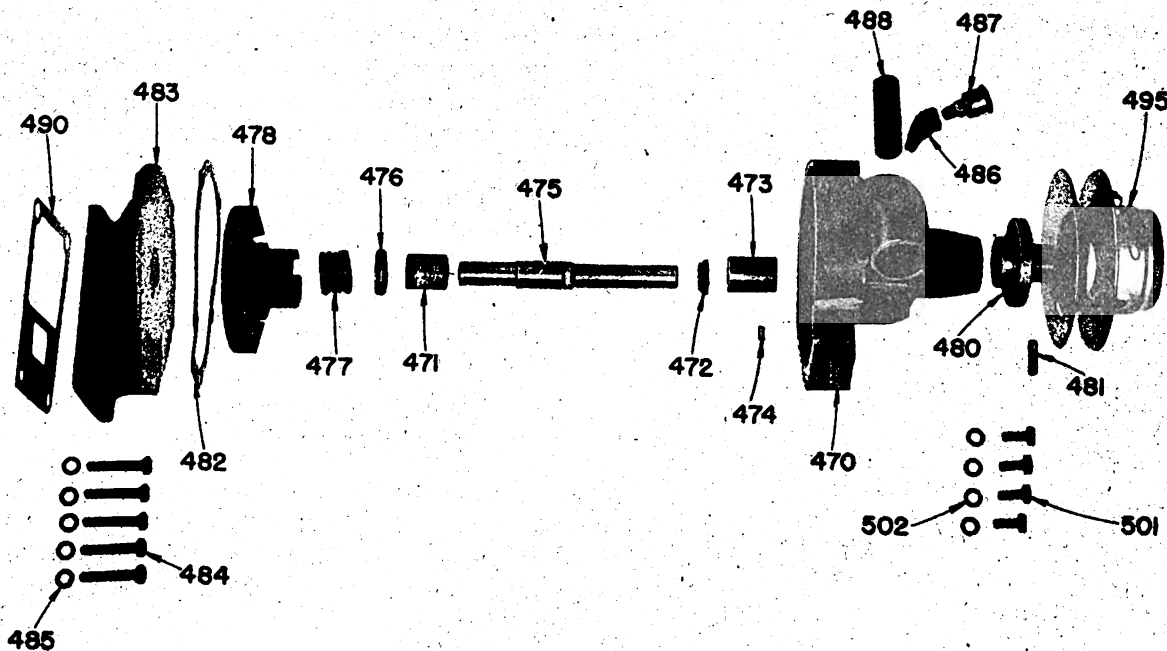

Fig. 18. Component Parts of 1A13-360-1 Water Pump
- (1) Drain radiator and cooling system.
- (2) Release tension on fan belt and remove.
- (3) Remove hose connections at water pump.
- (4) Remove cap screws holding water pump to water pump bracket and remove pump.
c. Disassembly. Refer to Fig. 18.
- (1) Remove fan.
- (2) Drive pin (481) out of hub or pulley.
- (3) With gear puller pull fan hub or pulley (480) off of shaft.
- (4) Draw impellor (478) with shaft (475) out of pump.
- (5) Press pump shaft (475) out of impellor (478).
- (6) Upon reassembling make certain that driving lugs of carbon seal are engaged in slots in impellor before pressing impellor on shaft.
- (7) Upon reassembling shaft with impellor into pump body it will be necessary to align thrust ring (472) with bushing and flat surface of shaft. (Note No. 5A13-360-1 water pump does not have thrust ring.)